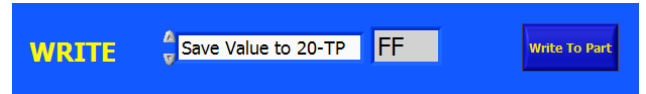

Figure 5. Save Value to 20-TP Option (the Display Is in Hex Format)
- **Save Value To 20-TP**—saves into the 20-TP memory the value that is shown in the display (see Figure 5). It is necessary to click Write To Part to write to the part.